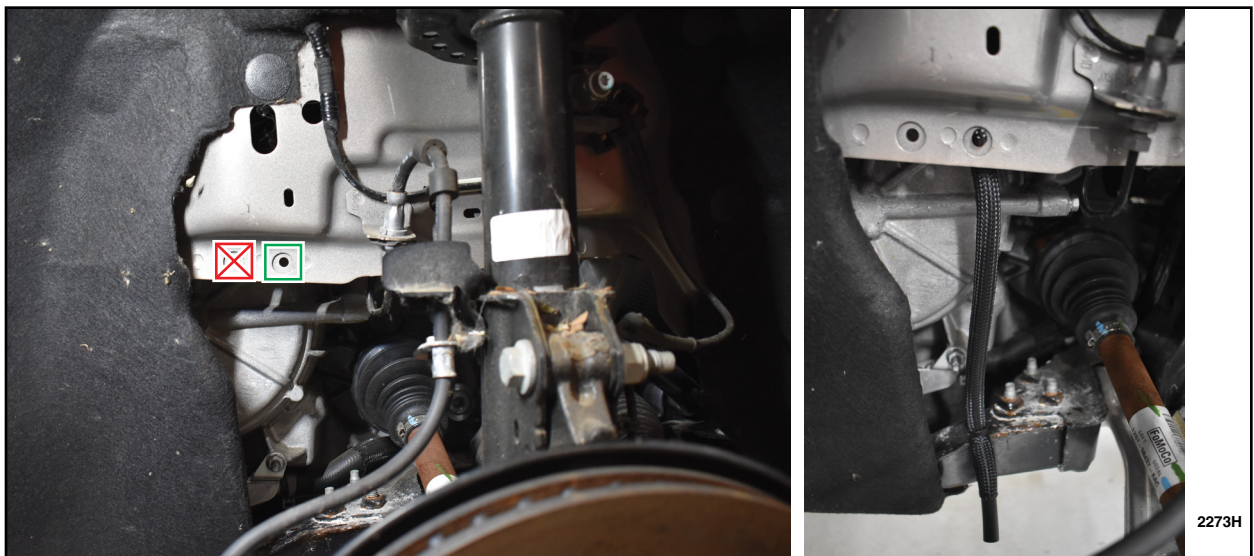

FIGURE 11
14. With the steering wheel turned to the left install the christmas tree connector as shown in the figure below. See Figure 11.